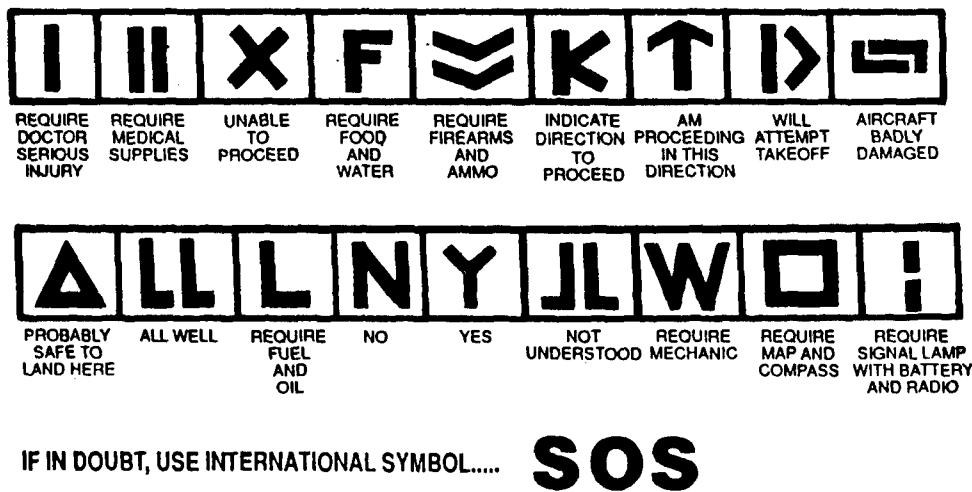
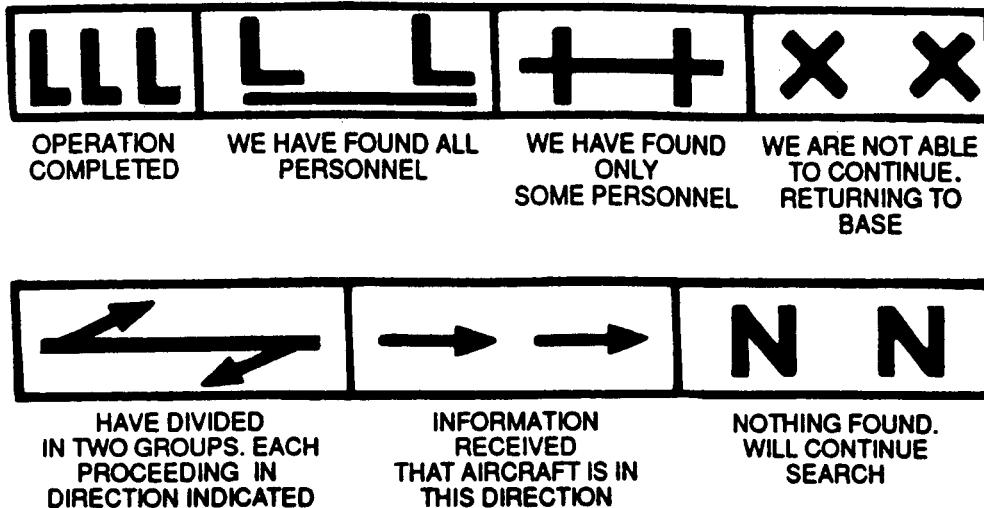

Figure 3-10. Survivor Ground-to-Air Signals.
Figure 3-11. Search Party Ground-to-Air Signals.
- International visual signals - Figure 3-10 shows ground-to-air signals for use by survivors, and Figure 3-11 shows ground-to-air signals for use by search party personnel. The symbols may be constructed from any available material that contrasts with the background; for example, parachute canopy strips, torn clothing, rocks, and sticks. The symbols should be at least 10 feet high.